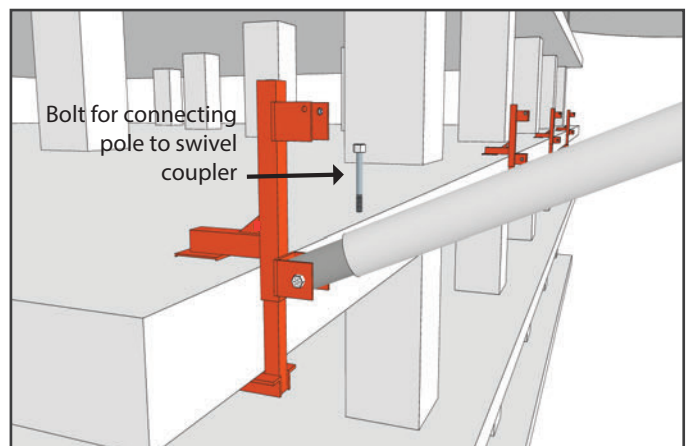

Fig. 12
4. Make sure the head of bolt is on top side of pole and lock nut is on bottom side. (see figure 12)